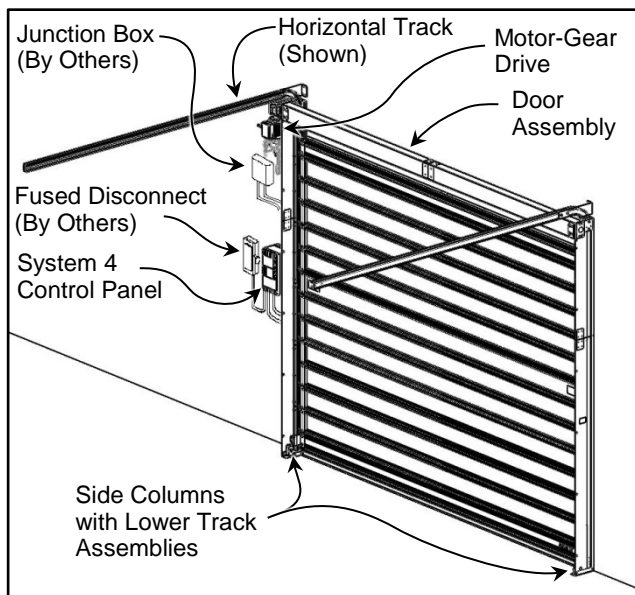

Figure 3
1. Install fused disconnect and Rytec control panel. (See Figure 3 for typical installation.)
Figure 3 shows the location of the major components of your Spiral VP Direct Drive door. This illustration should be used as *reference only* and should not be considered as part of the installation instructions.